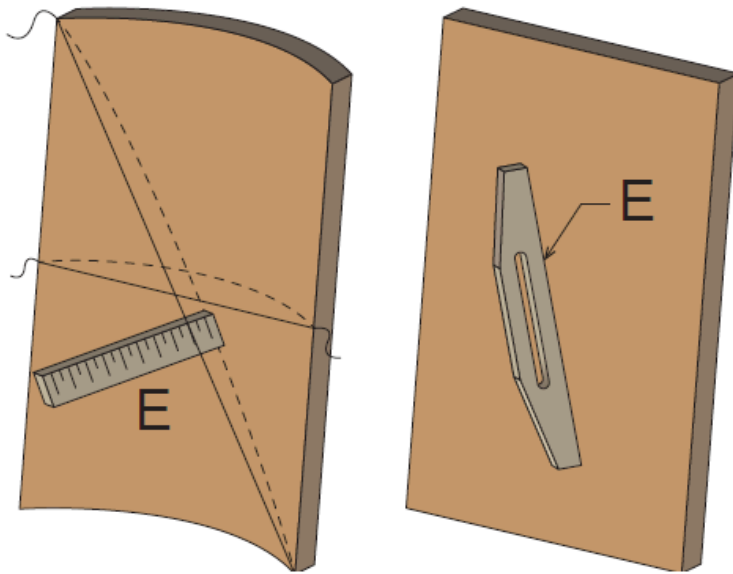

Figure 5 - Compliance Testing Measurement
- a) As a lineal ratio, per 305 mm [12"] in the diagonal, width, and/or length, warp of Product (See Figure 5, E) shall not exceed:
Example: A panel with dimensions of 813 mm [32"] x 1219 mm [48"], as illustrated (See Figure 5-E) will have a diagonal measurement of 1465 mm [57.689"]. In custom grade, the maximum distance between the string and the face of the panel will be 5.8 mm. ($1465 \text{ mm} / 305 \text{ mm} \times 1.2 \text{ mm} = 5.8 \text{ mm}$ [$57.689" / 12" \times .047" = .226"$])